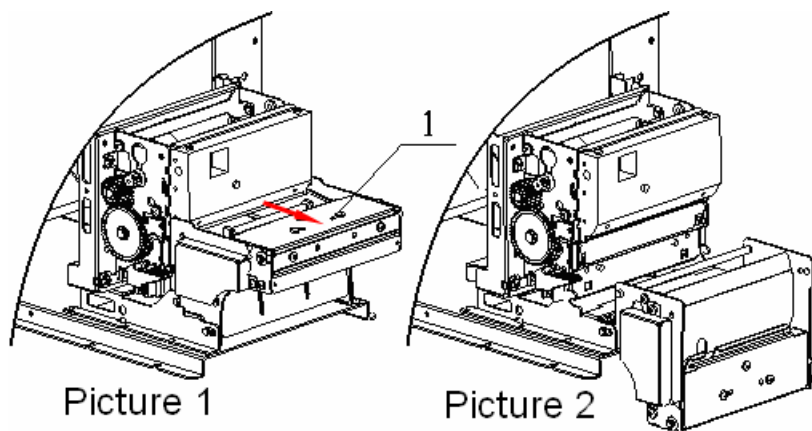

Fig. 5.2-3 Cleaning paper end sensor
4. Shown as in Fig.5.2-3, hold the Presenter shown in item 1 with hands and pull it forcibly according to the arrow shown in the Figure below until the Presenter turns to the position shown in item 2 of the Figure below;